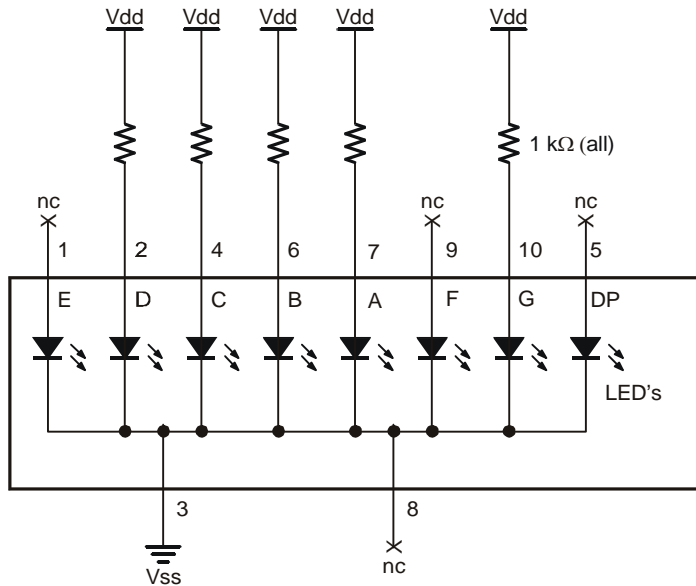
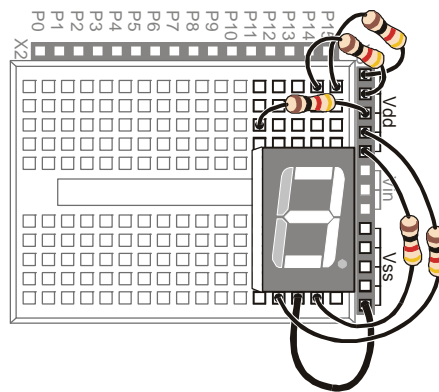

Figure 6-8
Figure 6-9
Figure 6-8 and Figure 6-9 show the digit “3” hardwired into the 7-segment LED display.
- ✓ Build and test the circuit shown in Figure 6-8 and Figure 6-9, and verify that it displays the number three.